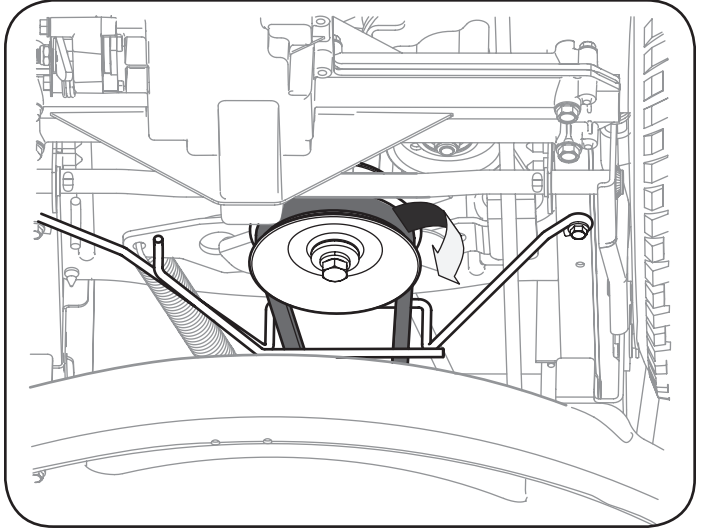

Figure 33
3. Remove the belt from around the tractor's PTO pulley. See Figure 33.
- Remove the deck belt from around the unit's PTO drive pulley as shown in Figure 33. Simply roll one side of the belt off the pulley and then work it off the pulley by continuing around the pulley until the belt is off of the pulley.
- Pull the belt towards the front of the unit, pulling it through and out of the belt keeper bracket, shown in Figure 33.
8. Feed the deck belt through the belt keeper bracket and work it around and onto the PTO drive pulley as shown in Figure 33.